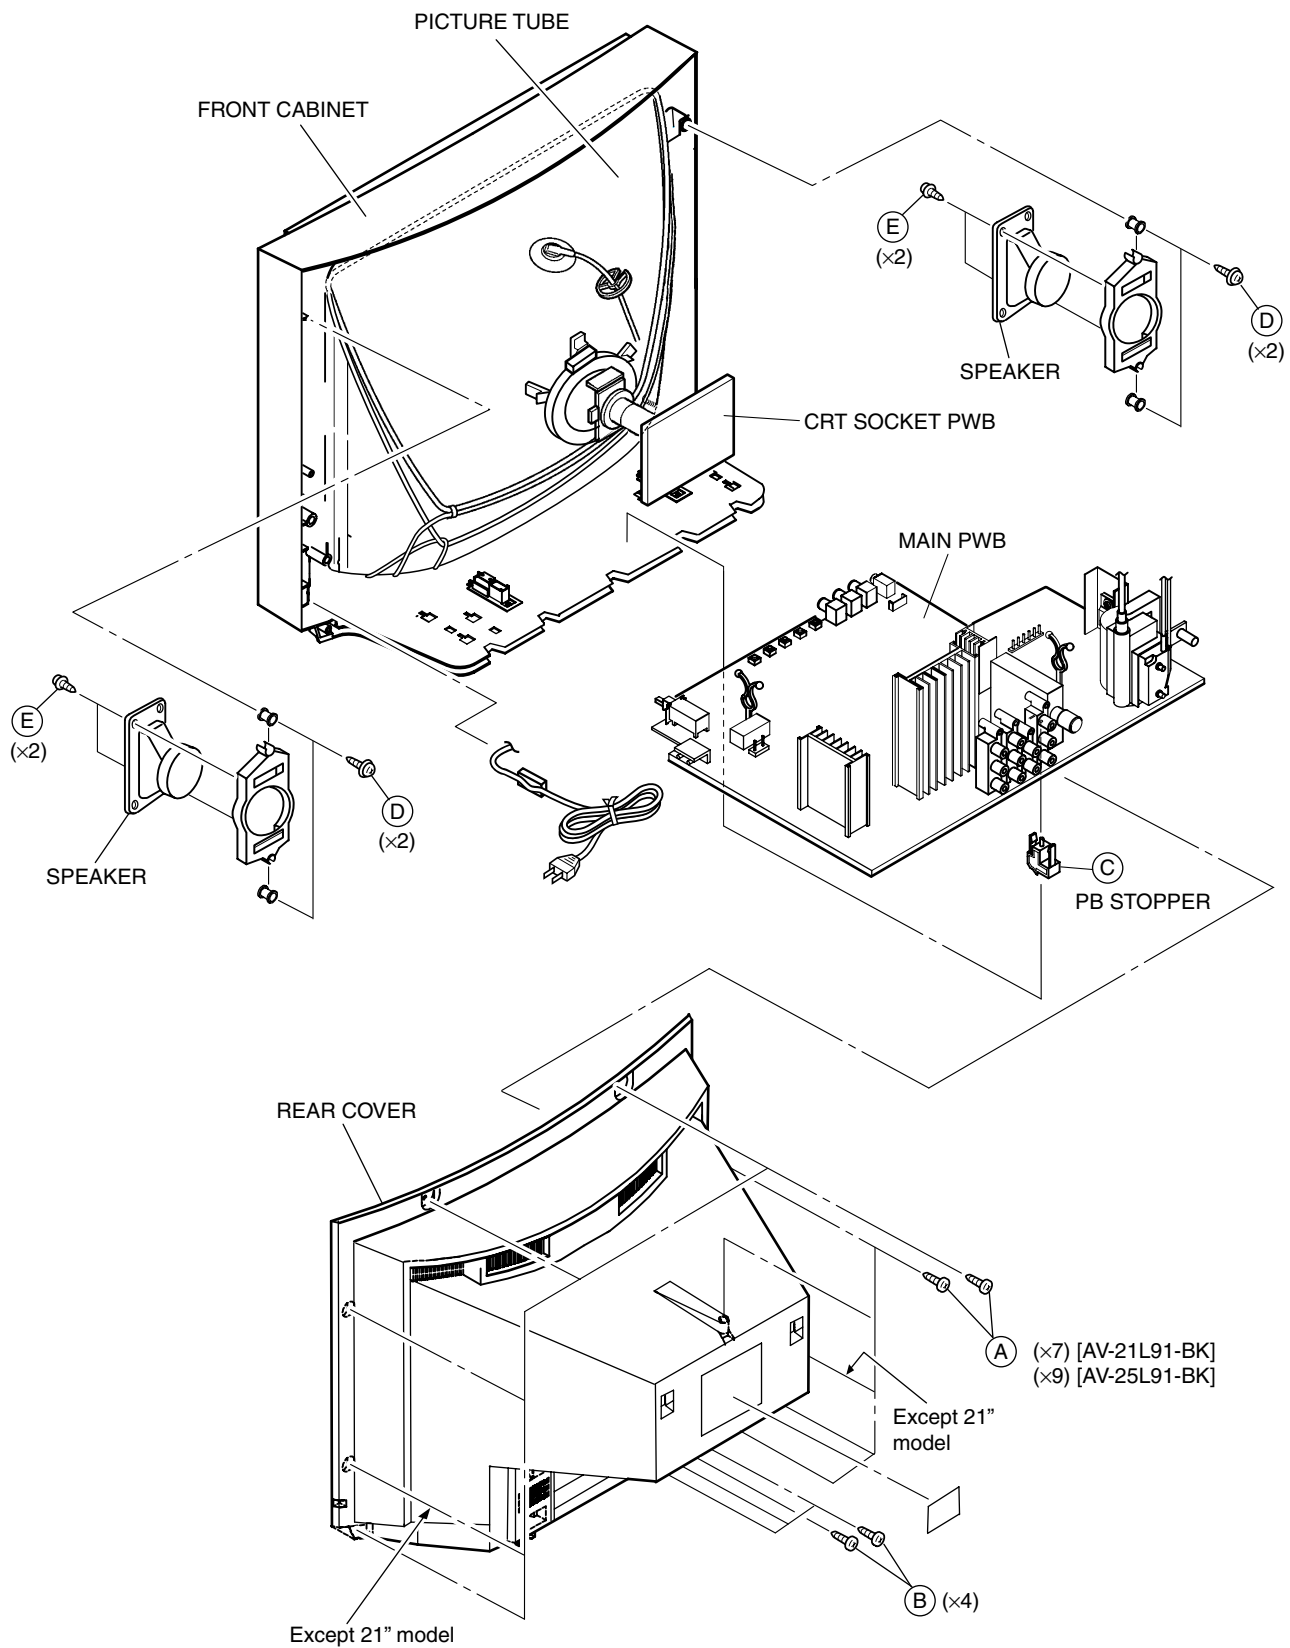

Fig.1
2. Remove the 7 or 9 screws marked (A) and 4 screws marked (B) as shown in Fig.1.
1. Remove the 2 screws marked (D) and 2 screws marked (E) as shown in Fig.1.